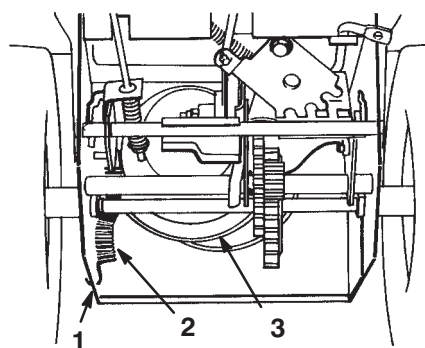

Figure 26
9. Disconnect the spring from the notch in the bottom edge of the side plate (Fig. 26).
15. Hook the spring into the notch in the bottom edge of the side plate (Fig. 26).